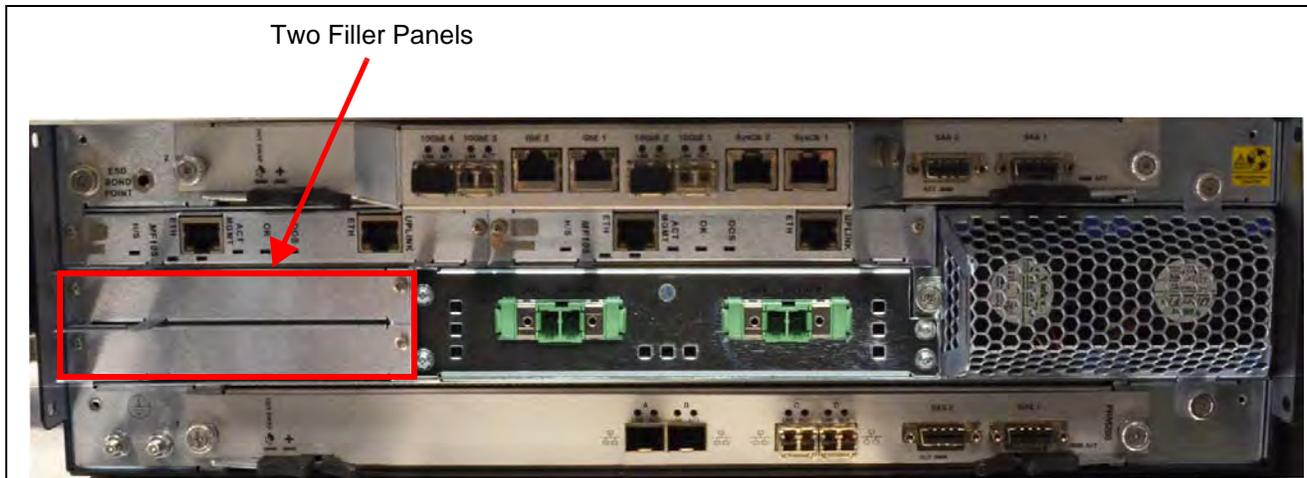

Figure 5.35 - G10 Probe Rear View
3.	At the rear of the G10, remove the two filler panels by removing the two screws from each panel (Figure 5.35).